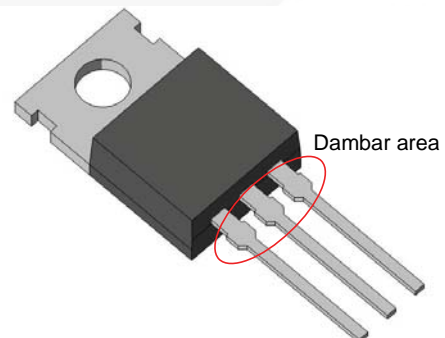

Figure 2. Leadforming Should Avoid Dambar Area
- Leadforming should avoid dambar cut area. The bend radius should be formed outside that area. Change of material stiffness by uneven cross-section prevents smooth radius forming at dambar area (see Figure 2).